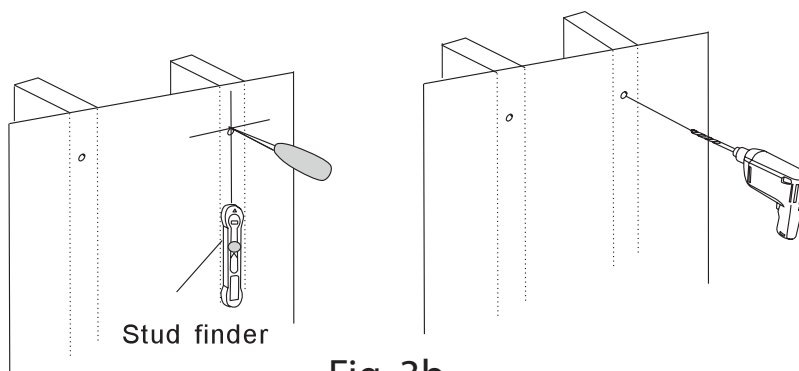

Fig. 3b
2. Place the **Wall Mount (1)** flat against the wall with the center of the mount in the desired location, aligning the holes in the mount with the studs (Fig 3b). Use the wall mount plate as a template to mark the location of the four mounting holes on the wall. Make sure that the mounting holes are level and are parallel using the built-in level on the front of the **Wall Mount (1)**.
4. Use a wrench, the four **Long Bolts (A)**, and **Washers (C)** to attach the wall mount to the wall. Do not use wall anchors in wood stud walls.
5. Use the **Level (R)** placed on the front of the mounting plate to level the wall mount, repositioning as necessary, then firmly tighten the bolts. Do not overtighten.